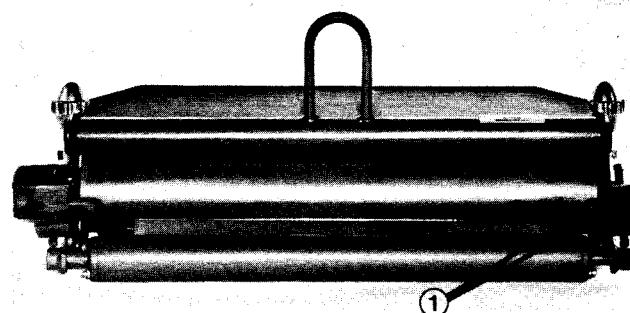

Figure 24
**IMPORTANT:** When installing the bedbar assembly, be sure to position the center portion of the grass shield over the rear edge of the bedbar (Fig. 24). Securely seat the (2) bedbar pivot bolts to a maximum torque of 40 ft-lbs. Always check reel bearing adjustment after installing bedbar.